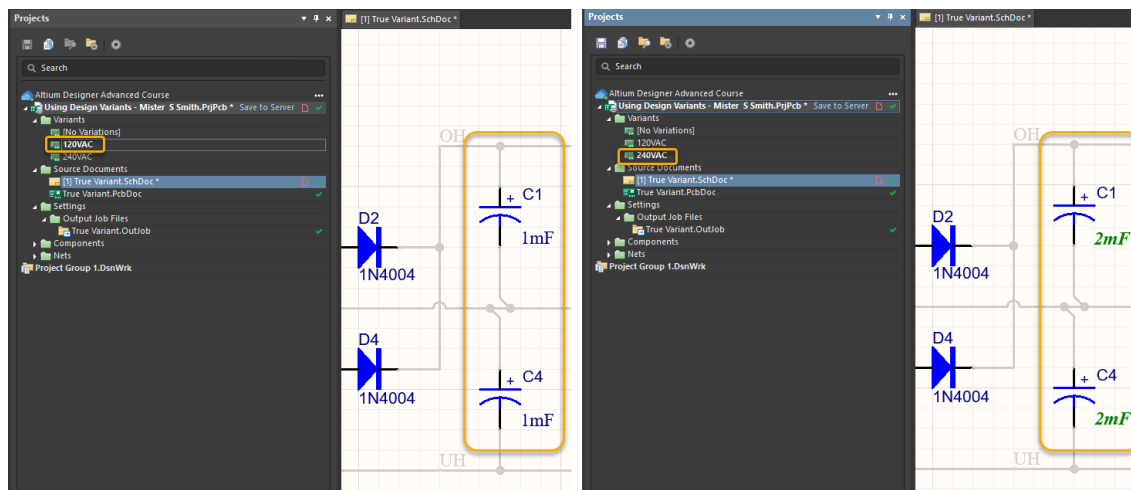

Figure 16. 120VAC and 240VAC Alternate Part Variant
60. Switch between the `120VAC` and the `240VAC` variants in the *Projects* panel. Observe the values of `C1` and `C4` depending on which variant is selected. The difference is illustrated in Figure 16.